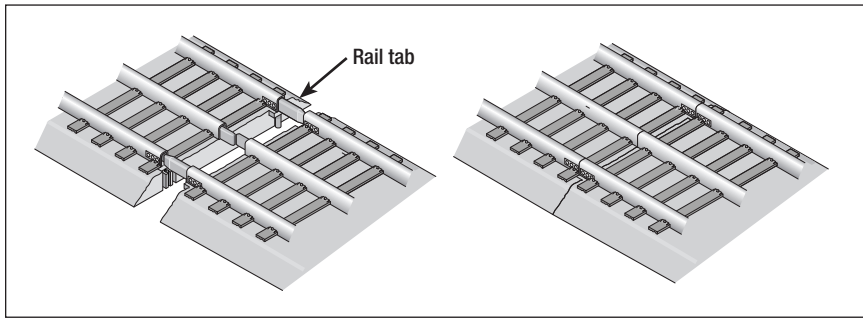

Figure 2. Joining the track sections
**F**asTrack track sections join together easily. With interlocking roadbed sections and large rail tabs, the track fits together securely so you always have good electrical contact. Take a look at Figure 2 to see how to join the track sections.